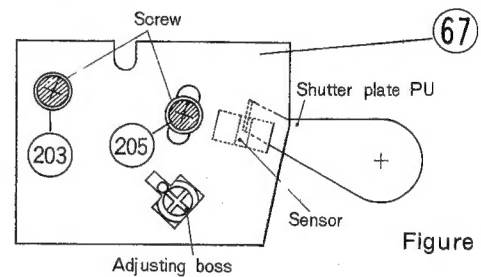

Figure 24
4. Slightly loosen the two Screws, (203) and (205), which fasten the Phono PWB Assy (67). (Fig. 24).
5. Turn the adjusting boss counterclockwise with the screwdriver (Fig. 24).
4. Slightly loosen the two Screws, (203) and (205), which fasten the Phono PWB Assy (Fig. 24).